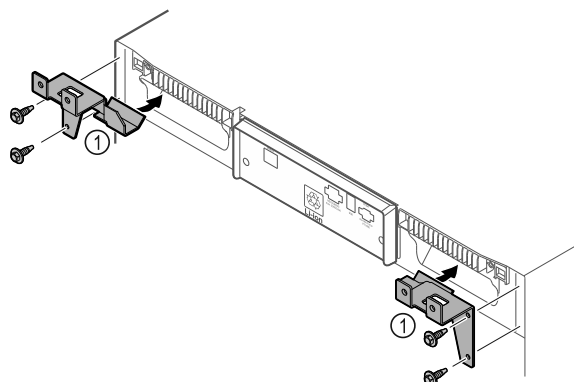

Fig. 67
- ▶ Fit the retaining parts Fig. 67 (1) to the device with self-tapping screws.